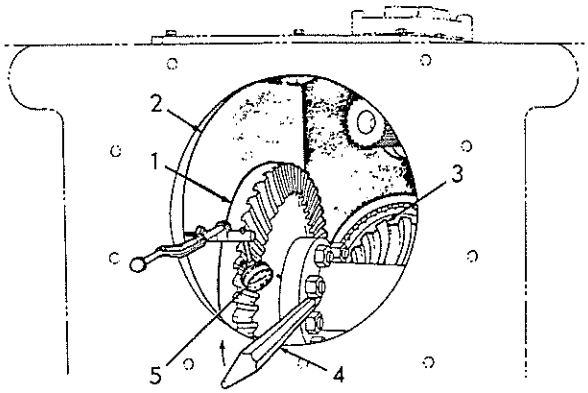

Fig. 11 Checking Backlash Between Bevel Gear and Bevel Pinion (T-70855)
- a. Refer to Fig. 11; position dial indicator as shown. Block bevel pinion solid. Insert small pry bar and rotate gear back and forth; total gear movement (gear freeplay) as indicated by reading on dial indicator is backlash; if desired, dial indicator may be mounted so reading can be taken from bevel pinion. Check backlash at four points (90° apart) around gear; block bevel pinion solid each time if reading is being taken from bevel gear.